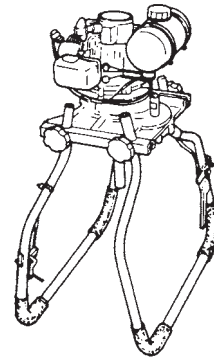

Fig. 14
- 2) By folding the handle downward, they become a stand for storage. (Fig. 14)